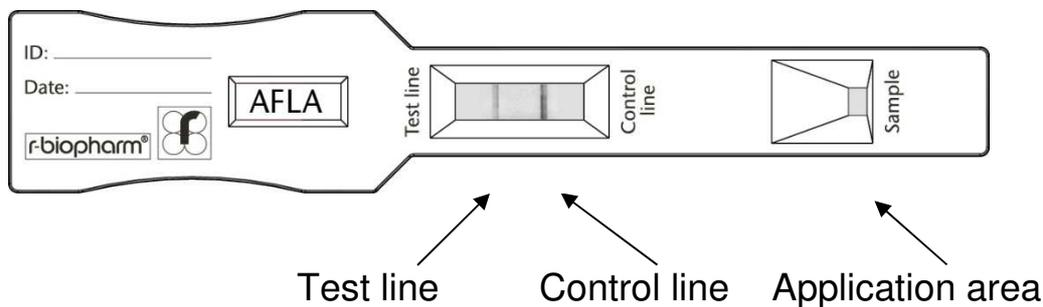

Fig. 1: RIDA®QUICK Aflatoxin RQS test strip.
- Apply 100 µl of prepared sample solution (Dilution I or Dilution II, see 8. Sample preparation) to the application area of the test strip (see Fig. 1)
The left line in the reaction area is the test band (test line, see Fig. 1). Its appearance and intensity depends on the aflatoxin concentration of the sample. The sample is contaminated with aflatoxin, if the control band (control line) is visible and the test band (test line) is also visible.